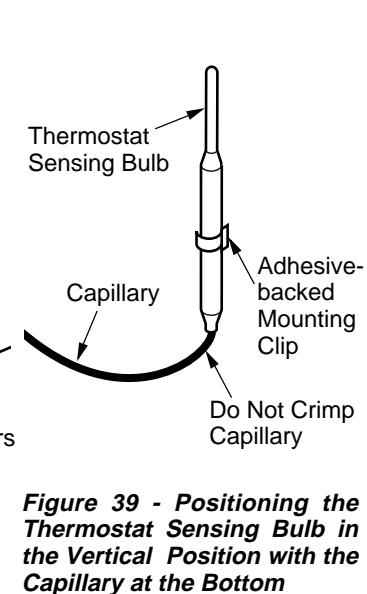

Figure 39 - Positioning the Thermostat Sensing Bulb in the Vertical Position with the Capillary at the Bottom
4. The mounting clip must be a minimum of 3" from bottom of fireplace to prevent crimping of capillary. Once you have decided on a location, clean the area thoroughly. Remove the paper backing from the adhesive on back of mounting clip. Press the clip into the new location so that the thermostat sensing bulb will be positioned vertically with the capillary at the bottom (see Figure 39). Slide the thermostat sensing bulb into the clip.